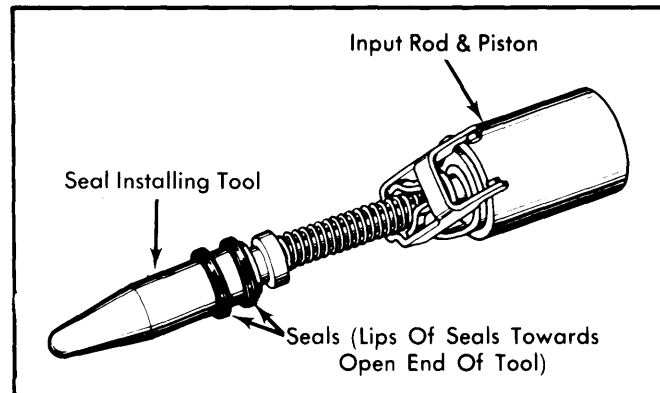

Fig. 6 Installing Input Rod Seals
4) Slide seals on tool with lip of cups toward open end of tool. See Fig. 6. Slide tool over input rod end and down to second groove. Then slide forward seal off tool and into groove. Assemble other seal in first groove. Make sure both seals are seated.